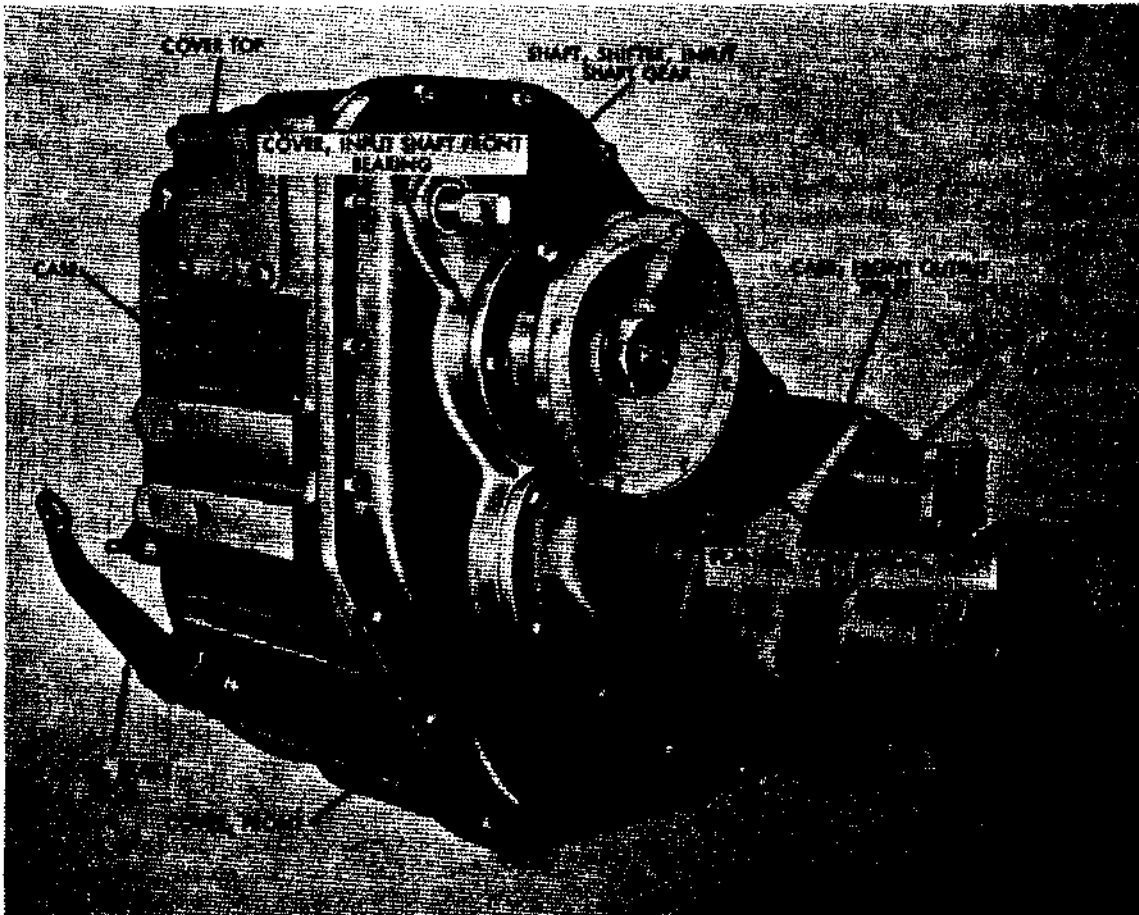

Figure 189. Transfer - right front view
a. Description. The transfer (figs. 189 and 190) is essentially a two-speed auxiliary unit which is driven by the engine, through the transmission, and distributes power through propeller shafts to each of the three driving axles. The transfer is located immediately back of the transmission and mounted on two support brackets under the cab.